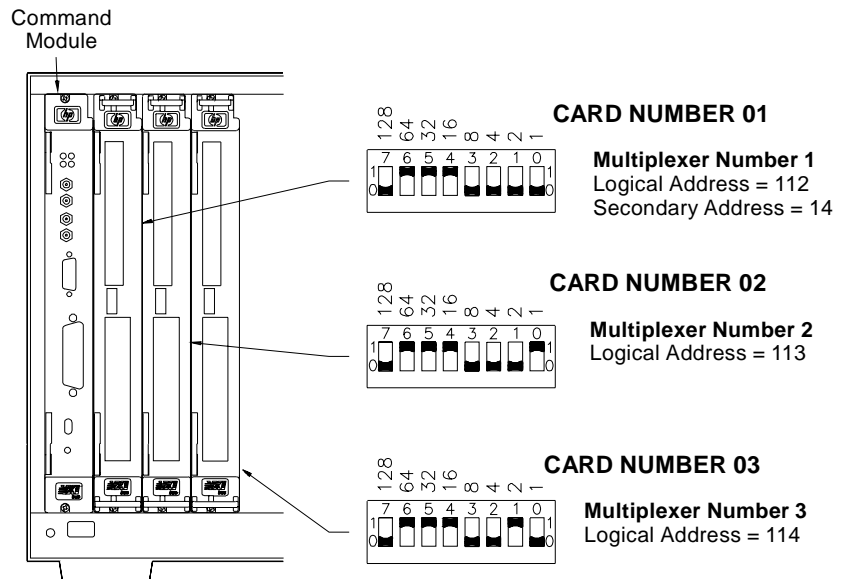

Figure 2-1. Switchbox Configuration
**Switching.** All of these measurements can be made by individually switching the channels with CLOSe and OPEN commands. Individually switching the channels requires that you also close appropriate tree relay(s) to connect channels to the analog bus (see channels 90, 91 and 92 in "Figure 2-1. Switchbox Configuration" on page 37).
1. Measure the resistance of the  $5K\Omega$  thermistor on the Terminal Module (Thr\_ohms). NOTE: A 4-wire ohms measurement should be made to avoid measurement errors by the  $100\Omega$  protection resistors (see "Figure 2-1. Switchbox Configuration" on page 37).